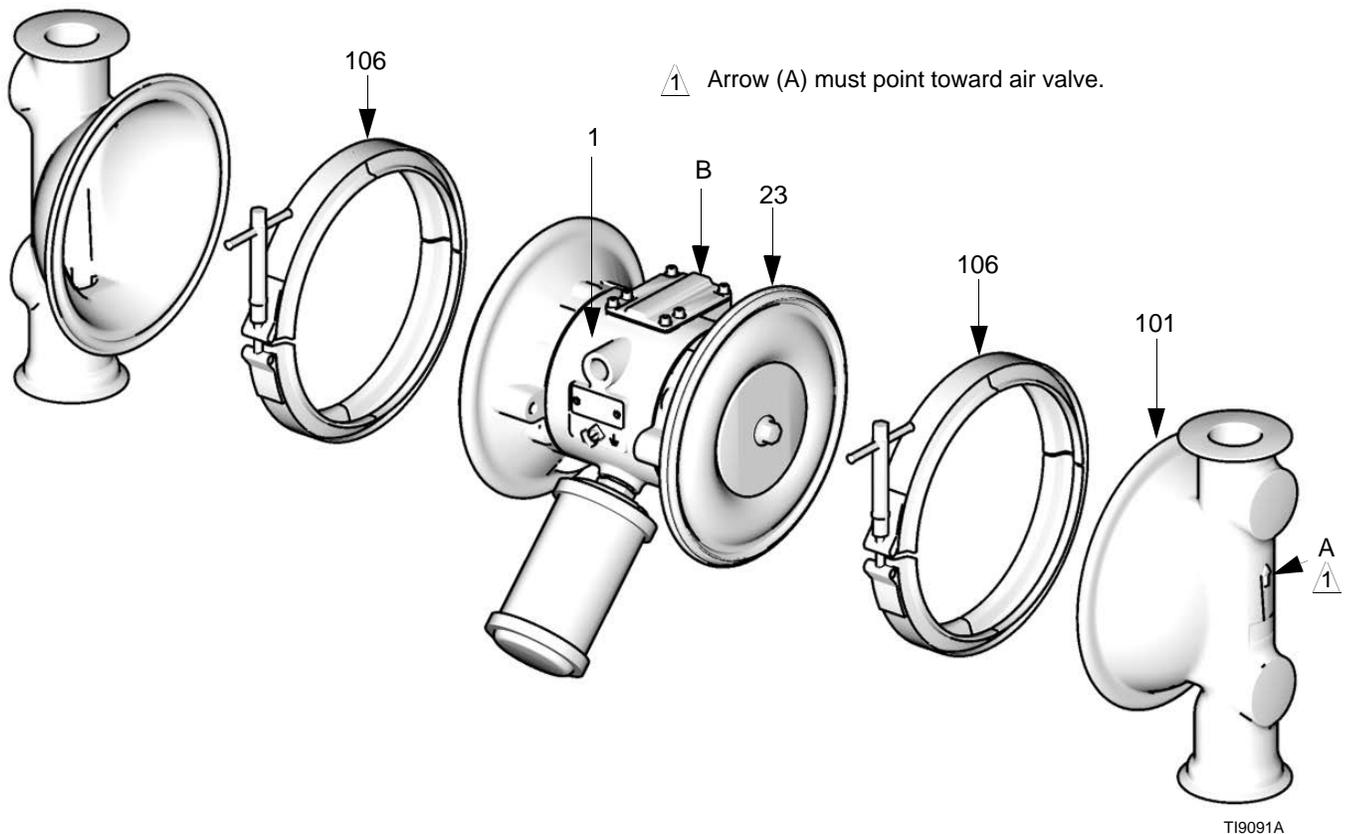

FIG. 10
3. Remove the clamps (106) holding the fluid covers (101) to the air covers (23). Pull the fluid covers (101) off the pump. See FIG. 10.
- d. On PTFE models only, install the backer (401*) on the bolt. Make certain the side marked AIR SIDE faces the center housing (1).
- e. Install the air side diaphragm plate (104) so the rounded side faces the diaphragm (401). This plate is stamped with its part number.
- f. Apply medium-strength (blue) thread locker to the bolt (107) threads. Screw the bolt into the shaft (24) hand tight.
3. Grease the length and ends of the diaphragm shaft (24), and slide it through the housing (1).
5. Hold one shaft bolt (107) with a wrench and torque the other bolt to 60-70 ft-lb (81-95 N•m) at 100 rpm maximum.
6. Align the fluid covers (101) and the center housing (1) so the arrows (A) on the covers face the same direction as the air valve (B). Secure covers with the clamps. See FIG. 10.